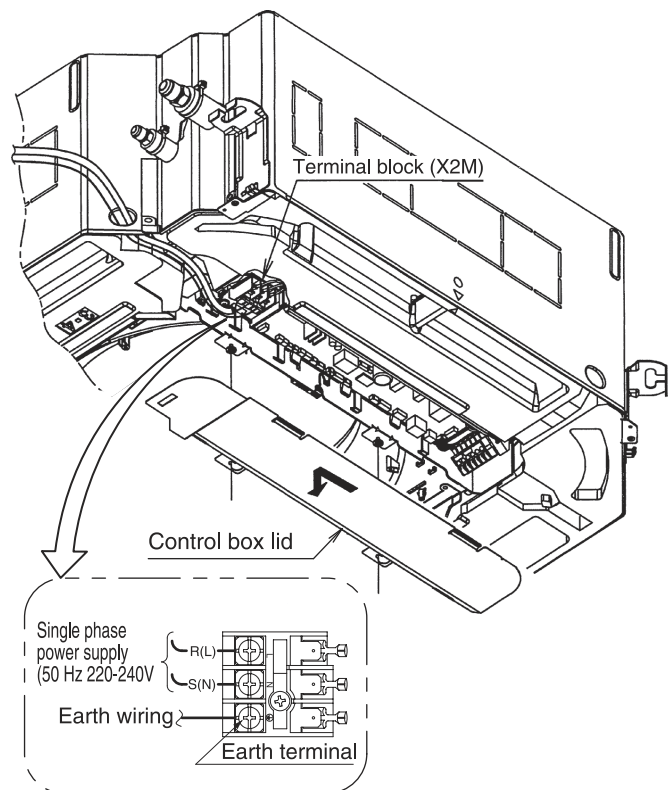

Fig. 20
- Open the control box lid and connect the single phase 220 - 240 V power supply to the terminal (L, N) on the terminal block (X2M). Connect the earth wiring to the earth terminal. (Refer to Fig. 20)